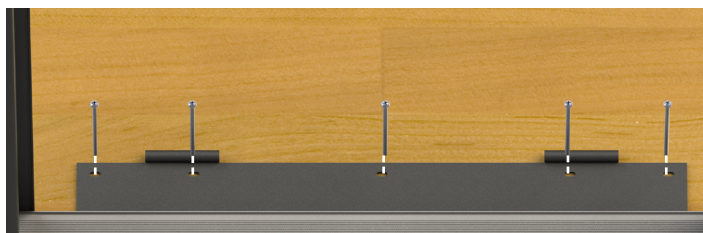

Fig.9
2. Insert the provided #10 - 24 x 4" bolts through the threshold hinge plate and floor (Fig. 9).